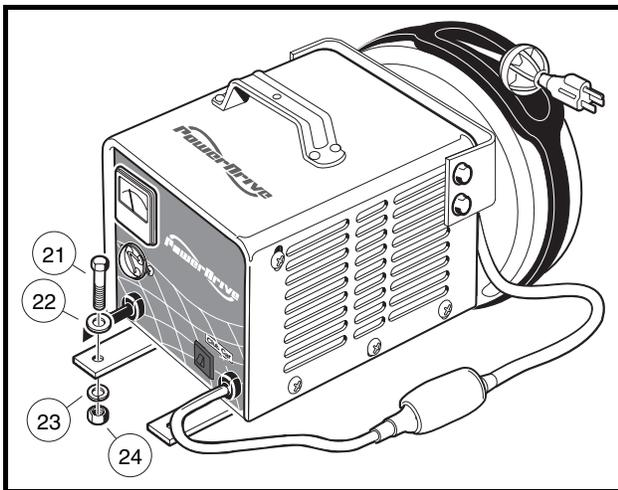

Figure 4-23 Onboard Charger with Reel
2. Remove four bolts (21), flat washers (22), lock washers (23) and nuts (24) from charger mounting brackets (Figure 4-23, Page 4-30).